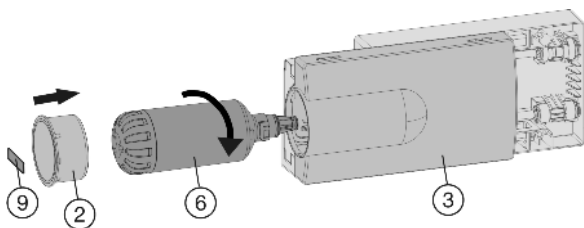

Fig. 41
- ▶ Place the tray cover *Fig. 41 (3)* into position.
- ▶ Remove the film from the water filter *Fig. 41 (6)*.
- ▶ Insert the water filter *Fig. 41 (6)* and turn it approximately 100° to the right until it locks into position.
- ▶ Place the cover on the filter *Fig. 41 (2)*.
- ▶ Write the date of the next filter replacement on the supplied adhesive label *Fig. 41 (9)* and affix it to the module.